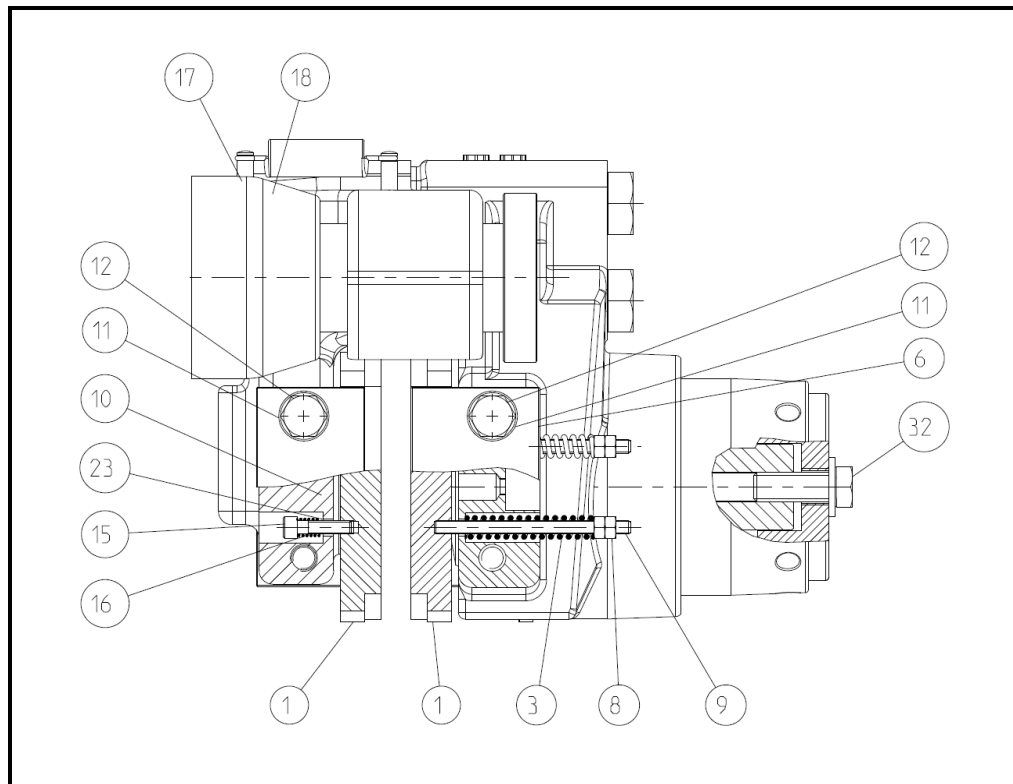

Fig. 11.1
Before exchanging the friction pads ensure that the securing screw M22x1.5 x60 (item 32) is securing the open position and that there is no oil pressure at the brake calliper. Disassemble one of the two holding plates in each case (item 6 and 10, Fig. 11.1) on one side.